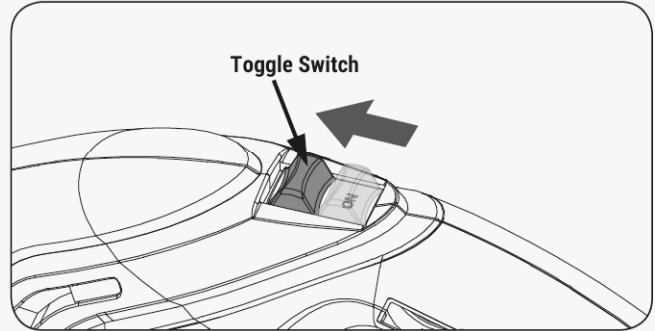

Figure 26
3. Push the toggle switch forward to start the blower. (See **Figure 26**)